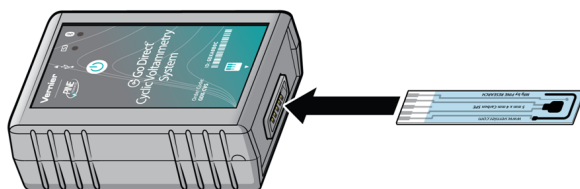

Figure 1
3. Insert a screen-printed electrode (SPE) into the SPE connector on the Cyclic Voltammetry System (see Figure 1).